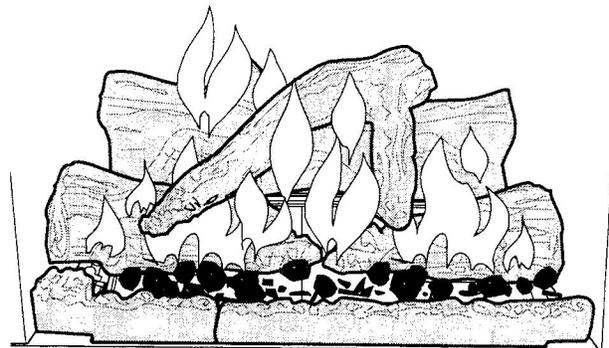

Figure 50. Correct burner flame pattern.
2. Place the ON/OFF/T"STAT switch in the ON position and continue to watch the fire until the entire unit is lit. The burner flames should appear as depicted in Fig. 50. For thermostatic control, set the wall thermostat to the desired room temperature and then place the remote switch in the T'STAT position.